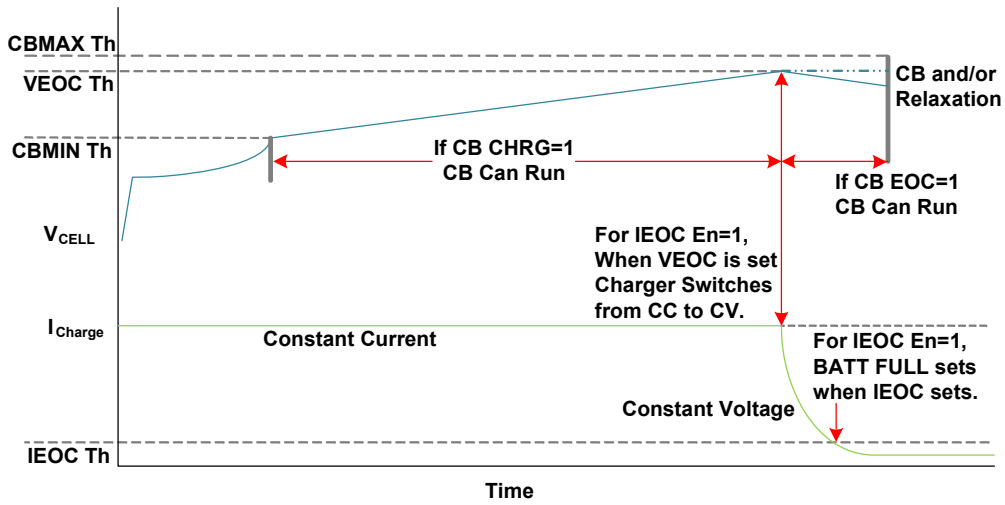

Figure 108. A Typical Charge Characteristic Curve
The ISL94216 has features that support both Constant Current (CC) and Constant Voltage (CV) charging. A typical charging profile for a battery cell is depicted in Figure 108. Cell balancing can occur only when the cell voltage is between the $CBMIN$ and $CBMAX$ limits, which are independent of $CB EOC$ and $CB CHRГ$ bit settings.